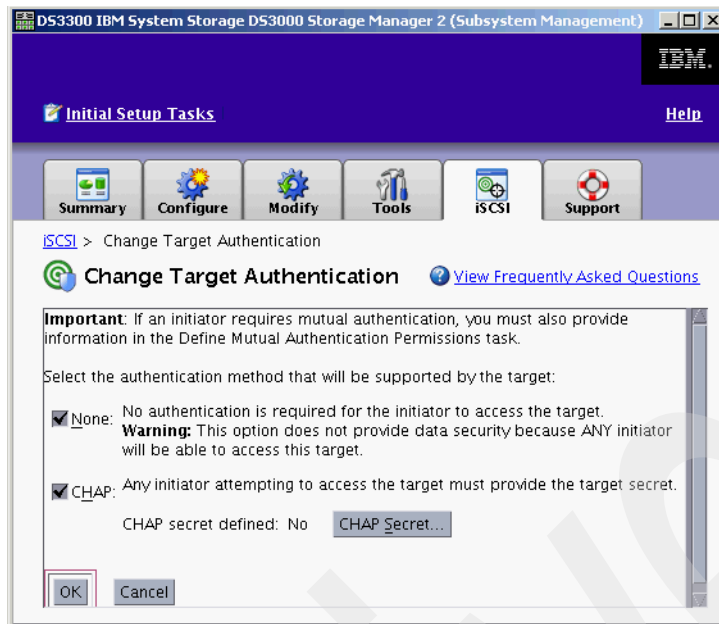

Figure 13-2 DS3000 Storage Manager - iSCSI target authentication
2. A new dialog opens (Figure 13-2 on page 286) that provides two options:
Figure 13-2 shows both target authentication options checked.
5. You will return to the Change Target Authentication window (Figure 13-2). Click **OK** to save the modifications.